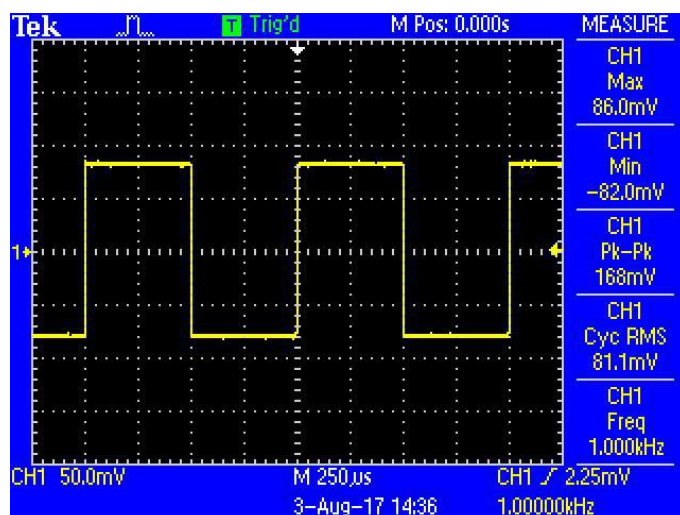

Fig.64 Measured Signal Parameter
3. Turn on the function signal generator and set “Function: Square”, “Amplitude: 80mVrms”, “Frequency: 1 kHz”, as is shown in Fig.64.